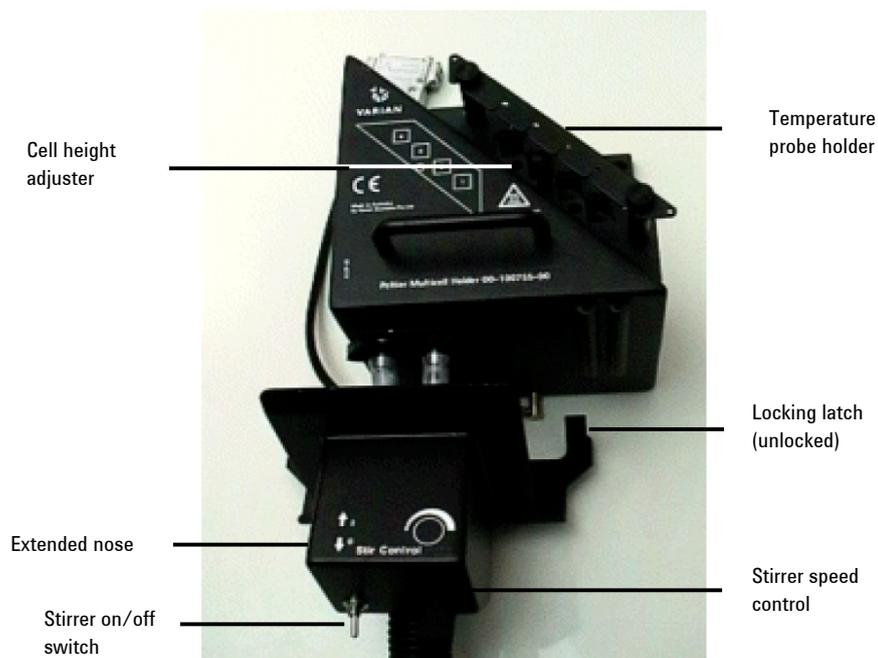

Figure 1. Peltier 4 Position Multicell Holder accessory
- 4 Ensure that the fastening lever is in the open position (i.e., to the left). Hold the extended nose (the black metal flange which contains the stirring controls, see Figure 1) and align the two holes on the base of the accessory with the locating pins on the floor at the rear of the sample compartment. Move the fastening lever from left to right to lock the accessory into position.
- 5 Ensure the two black locking latches at the back of the extended nose are pointing upwards (unlocked, see Figure 1). Position the extended nose into place by aligning its locating pins with the holes in the front of the sample compartment floor. Lock the extended nose into position by pushing the locking latches downwards.
The temperature probe holder (see Figure 1) that spans the two black posts on the multicell holder should be removed when inserting or removing cuvettes.